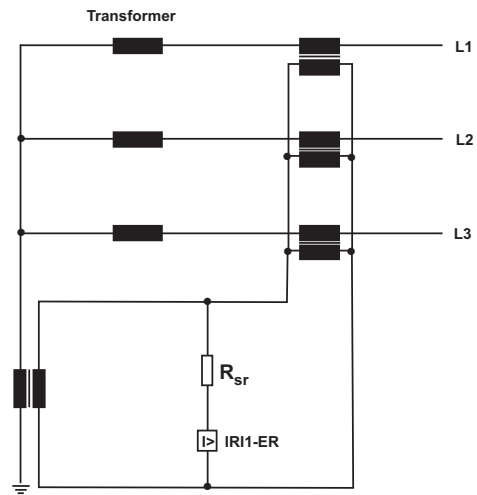
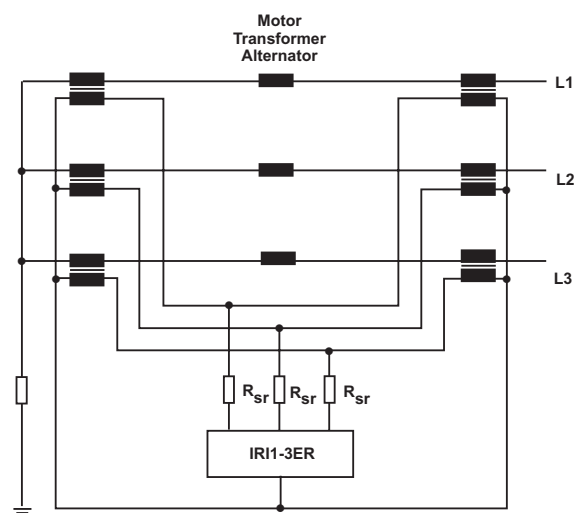

Fig. 2.1: Zero-current differential protection of a transformer in star-connection (*IRI1-ER*)
Fig. 2.2: Highly stabilized differential protection for alternators, transformers and motors (*IRI-3ER*)
- Zero-current differential protection of the star point winding (restricted earth fault) of a transformer (*IRI1-ER*), see figure 2.1
- Highly stabilized differential current relay for alternator, transformers and motors (*IRI-3ER*), see figure 2.2
The protection relay IR11-ER is connected to the differential circuit of the c.t.s as a current differential protection relay. When used as zero-current differential protection (restricted earth fault), the relay (IR11-ER) is to be connected acc. figure 2.1. When used as highly stabilized differential current relay, the relay (IR11-3ER) is to be connected acc. figure 2.2.